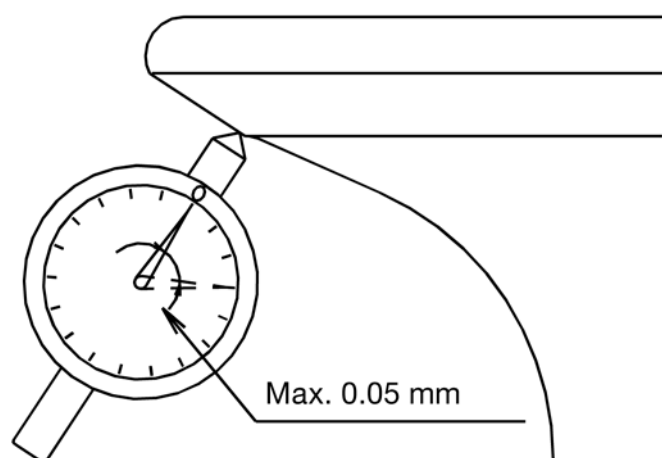

Figure 5: Truing-up the spindle
- Mount the spindle in the grinding machine and, using the dial-gauge positioned just inside the area of inner contact, (see Fig. 5), true-up to within a maximum of 0.05 mm. This is done in order to minimize the amount of material removed during grinding.